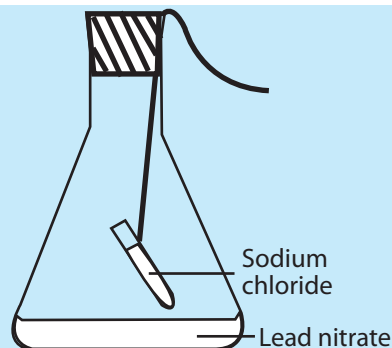

Figure 8.7 ▲
- Tie the ignition tube with sodium chloride solution with a string and suspend it inside the conical flask containing the lead nitrate solution with the help of a stopper as shown in Figure 8.7.